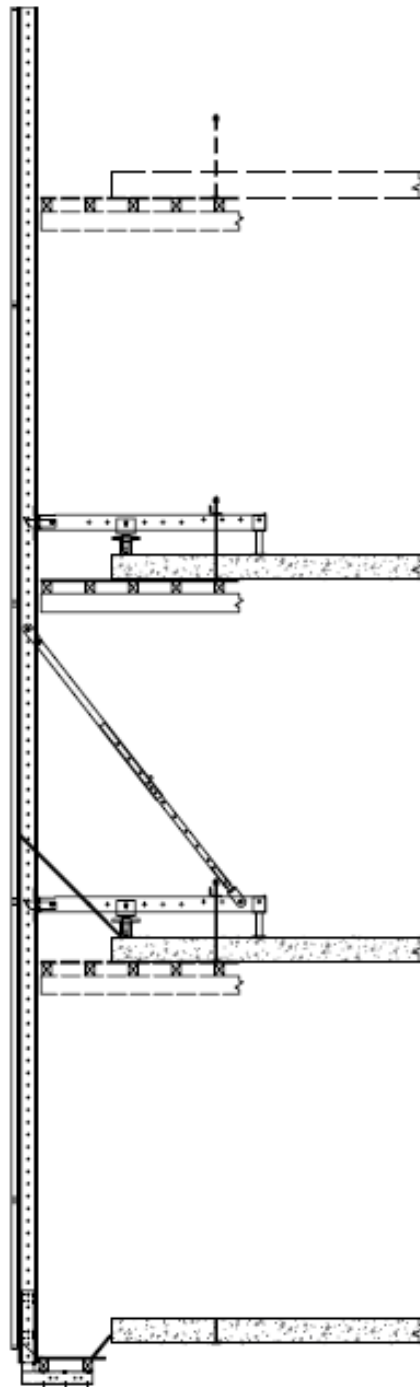

Figure 5.10.2 Formwork screen
- 3) Formwork / Finishing screens figure 5.10.2 and 5.10.3 show the typical detail of the formwork / finishing screens. For further details regarding the use of screen refer to Annexure D for Natform standard screen details. To lift and lower the screens the site tower crane will be used.